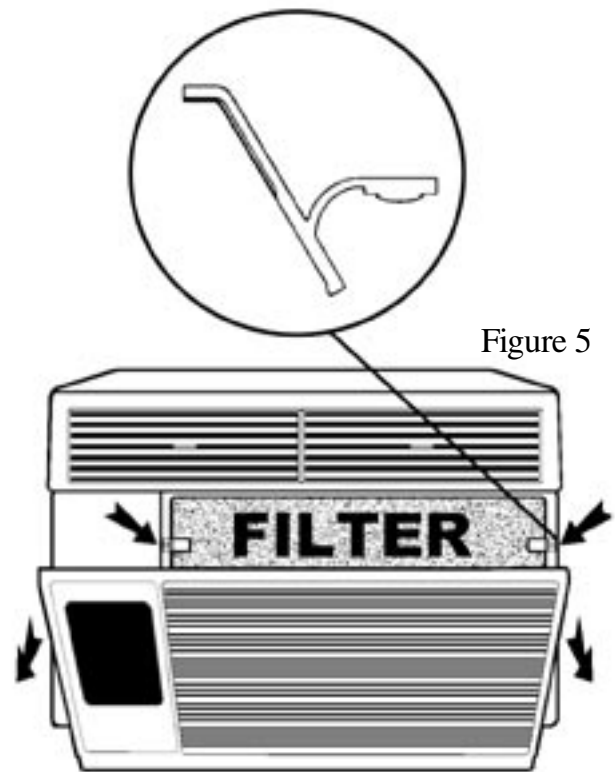

Figure 5
Open the return air (RA) grille by grasping it at the top outside edges and pulling towards you (see figure 5). The RA grille will stay open until it is detached or closed. If you need to remove the RA grille, grasp it at the bottom and pull towards you.
The filter is held in place by two spring clips (see figure 5). Push down on the clips, grasp the filter and pull towards you to remove it for cleaning. Clean with warm water and a mild detergent, rinse, dry completely and replace. Use caution when removing the filter. The internal metal components are sharp.
If the RA grille has been removed, reposition it bottom first, while lining up the control panel opening with the control panel itself (see figure 5). Once it is lined up, push in at the bottom of the RA grille until you hear it snap into place. Now close it by grasping the top outside edges and pushing it towards the unit until it snaps shut.